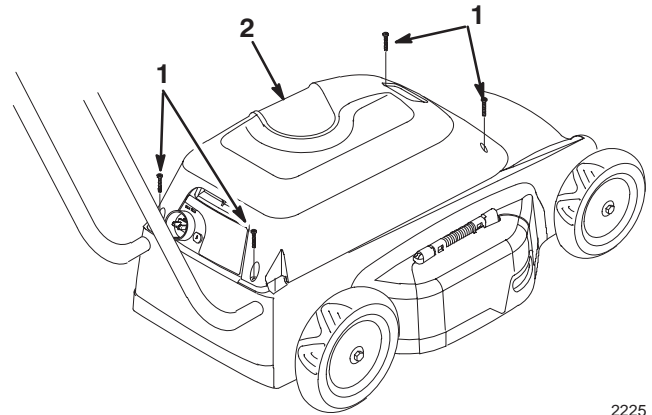

Figure 23
- Remove top shroud (Fig. 23) and clean out any debris underneath it with compressed air, a vacuum cleaner or a brush.
1. Remove four screws from shroud (Fig. 23). Remove shroud.